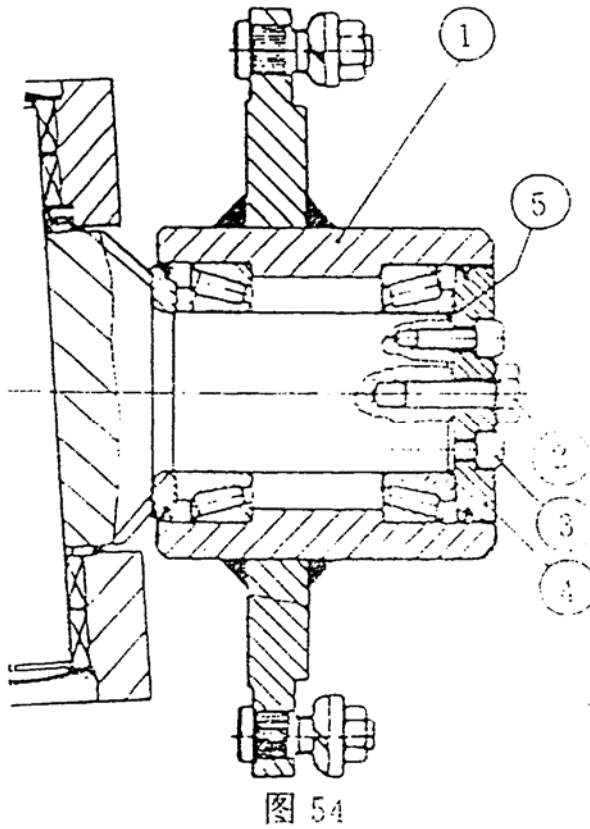

Fig.54
8.8 Lubrication and adjustment for front wheel bearings (Fig.54)
2. Check the play of wheel hub (Fig. 54/1)
3. Unscrew hex. Bolt (2) and socket head bolts (3).
4. Remove cover (2). Fig 54/4
5. Count the numbers of the shims (4).
6. Pull off the hub (1) with extracting tool.